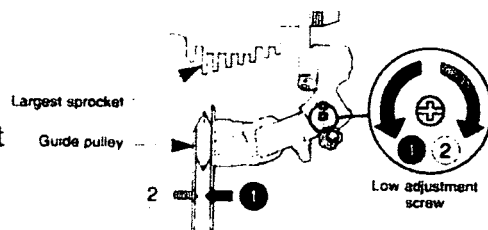

Fig. 8 - Adjust the low limit screw so the guide pulley aligns under the largest cog.
To adjust the low limit screw, insert the correct tool, turning the limit screw with one hand while pushing the derailleur inward with the other hand. It is important to move the derailleur all the way inboard until it stops. Note: With some wider range cassettes using cogs larger than 28 teeth the guide pulley can contact the largest cog, so make sure when you move the derailleur inboard, it is hitting the limit screw and not the cog itself. Now you can turn the low limit screw back and forth, again viewing the derailleur from the rear. You will notice it moving laterally underneath the largest cog in the same manner as with the high limit screw adjustment. A good adjustment here will center the guide pulley under the largest cog. For best accuracy position the guide pulley as close as possible to the cog (see figure 8).
Step 4 – Adjust the low limit screw so that the guide pulley is directly underneath the largest cog. As mentioned earlier, you will need to actuate the derailleur by hand, in order to complete this step. Do not install cable yet (See figure 8).